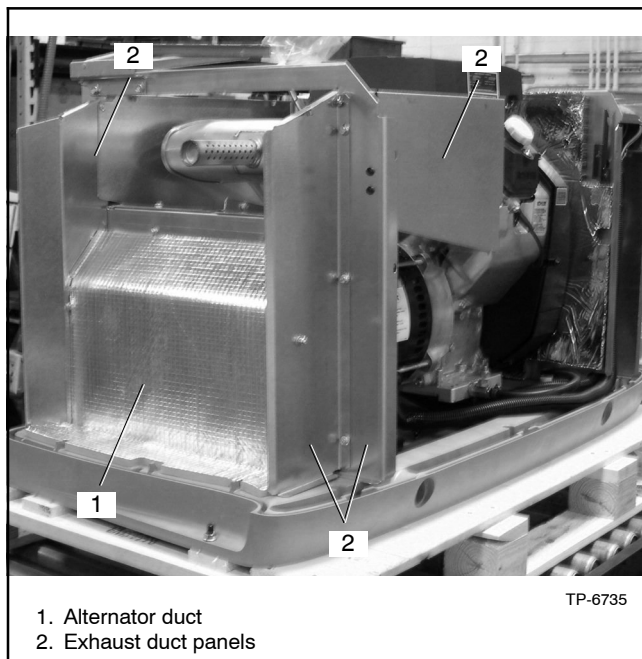

Figure 6-10 Exhaust and Alternator Ducts
18. Remove the remaining exhaust duct panels and alternator air inlet duct. See Figure 6-10.